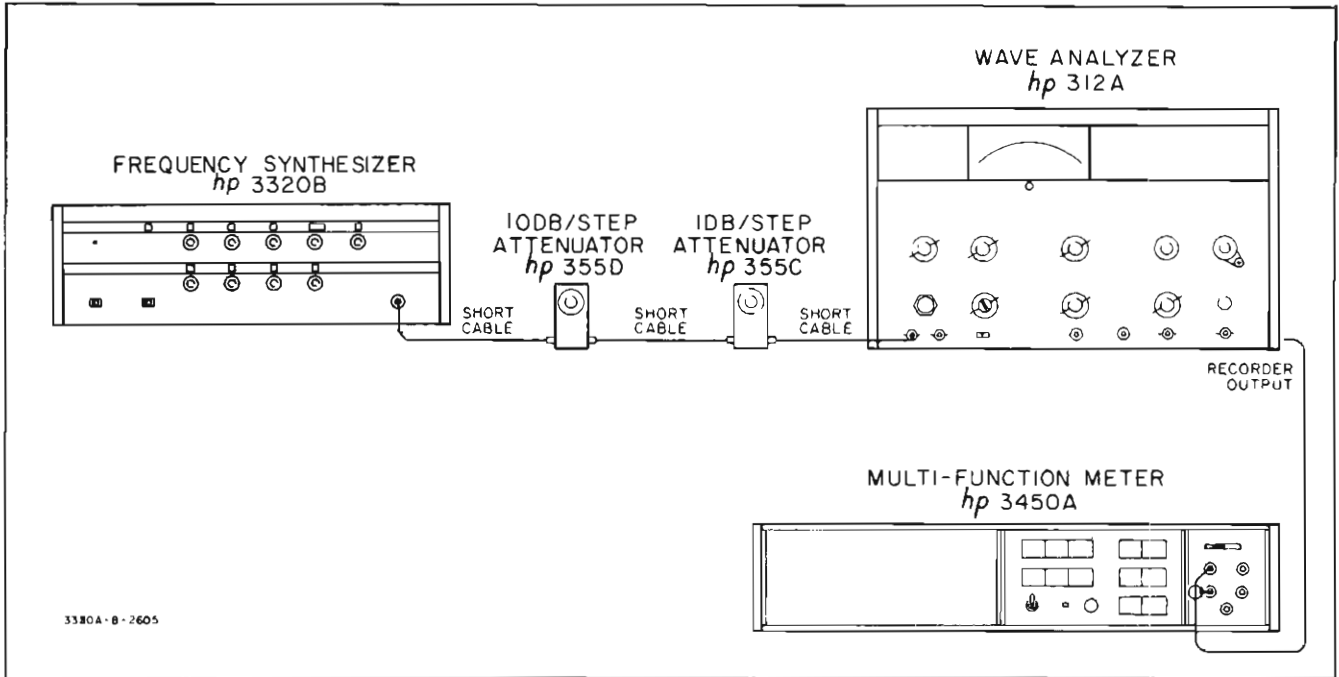

Figure 5-6. 3320B Attenuator Accuracy.
- a. Connect the equipment as shown in Figure 5-6.
a. Connect the equipment as shown in Figure 5-6.